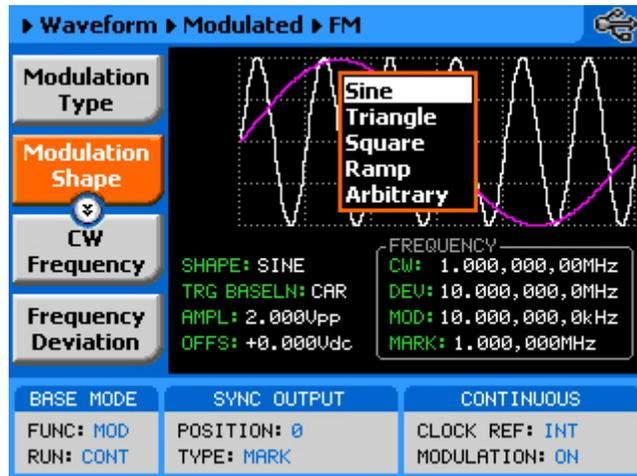

Figure 3-19, Modulating Waveform Shapes
**Modulation Shape** – Defines the shape and type of the modulating waveform. Although there are 5 options shown in the menu, there is a significant difference between the first four: Sine Triangle, Square and Ramp, and the last option – Arbitrary. The two types are described below. The Modulation Shape menu that provides access to the selection of the envelop waveform is shown in Figure 3-19.